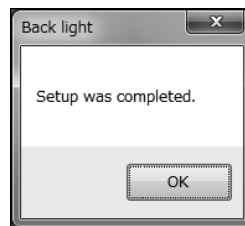

Fig.91
- ⑥ Click "OK" to change the settings to the selected values, and then click the "OK" button in the displayed message box (Fig. 91) to complete the setting process.